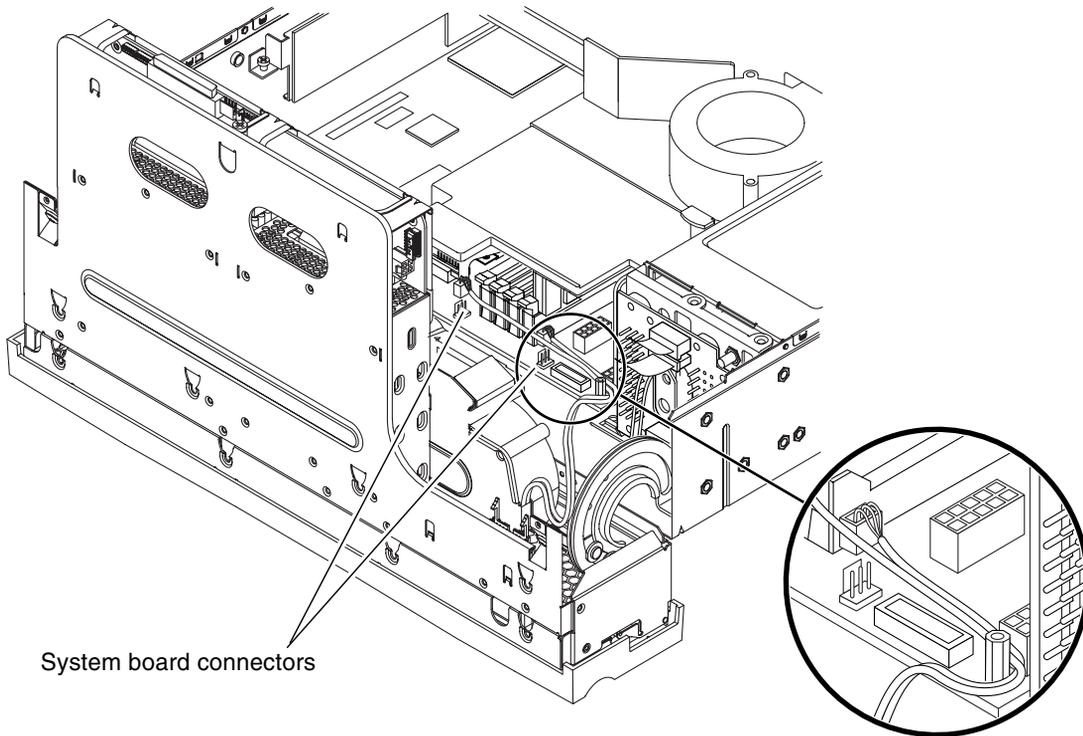

FIGURE 5-15 Detaching the Front Fan Assembly Cables From the System Board Connectors
- 12. Disconnect the front fan assembly cables from the system board connectors** (FIGURE 5-15).
See FIGURE 5-15 to locate the system board connectors.